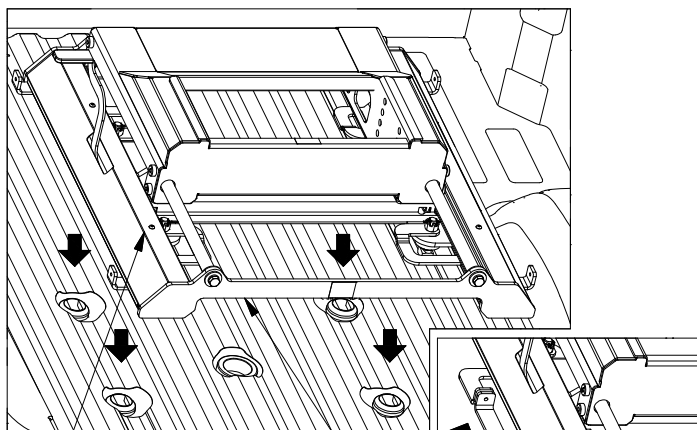

Figure B1: View of unlatched base.
**CAUTION:** Lifting the slider base under the sheet metal covers may cause damage to the base, grip base by end rail supports to lift, see Figure B1.
1. **Place Base.** Remove the latch pins from each side of the base and rotate the handles out, see Figure B1. Place the base over the attachment points and carefully lower it until the latch cams pass through the floor and the base rests flat against the top of the attachment points.